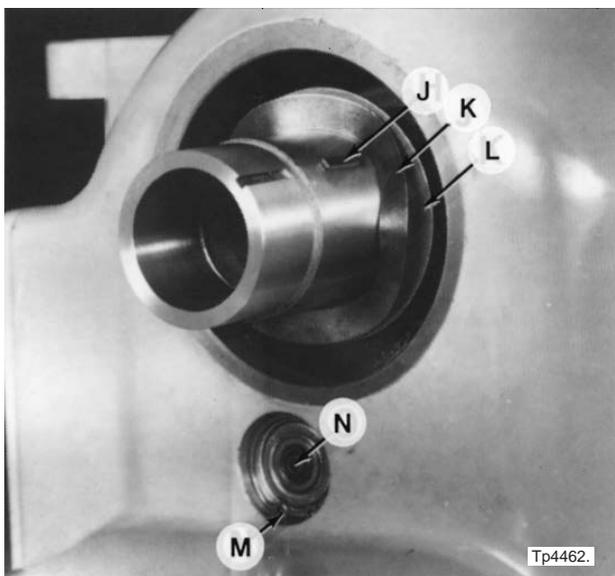
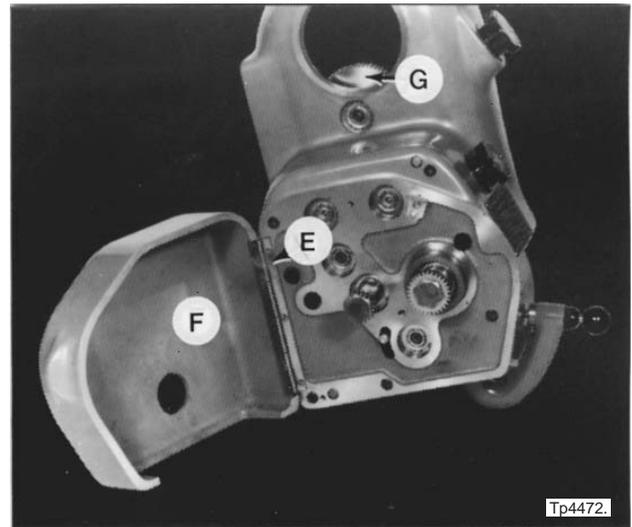

Figure 4.6 - Handwheel Washers and Key
Figure 4.16 - Gearbox Assembly
3. Remove key "J", Figure 4.6, washer "K", and washer "L".
2. Remove snap ring "M", Figure 4.6 .
3. Turn screw "N", Figure 4.6, clockwise to remove idler gear "G", Figure 4.16 .